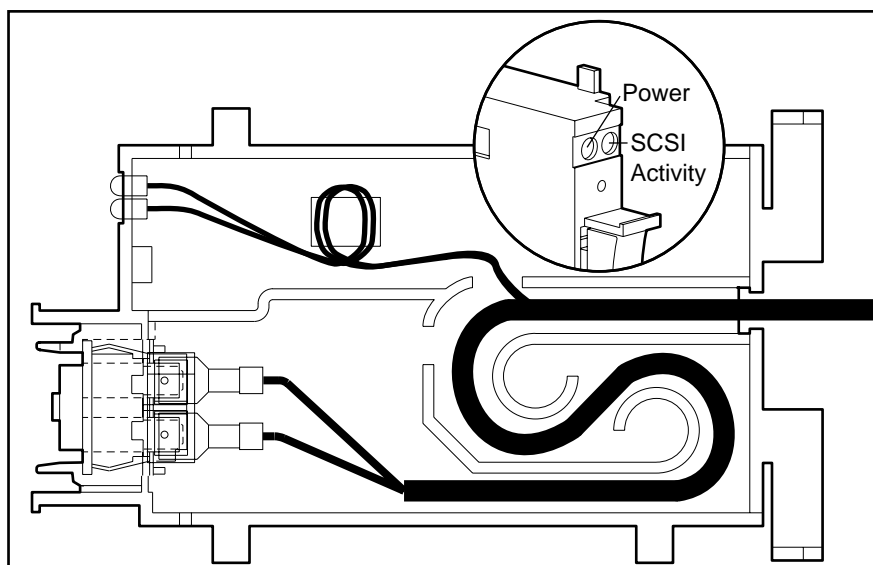

Figure 2-17. Disconnecting the power switch cables
6. Disconnect the power supply cable from the power switch. See Figure 2-17 on page 2-20.